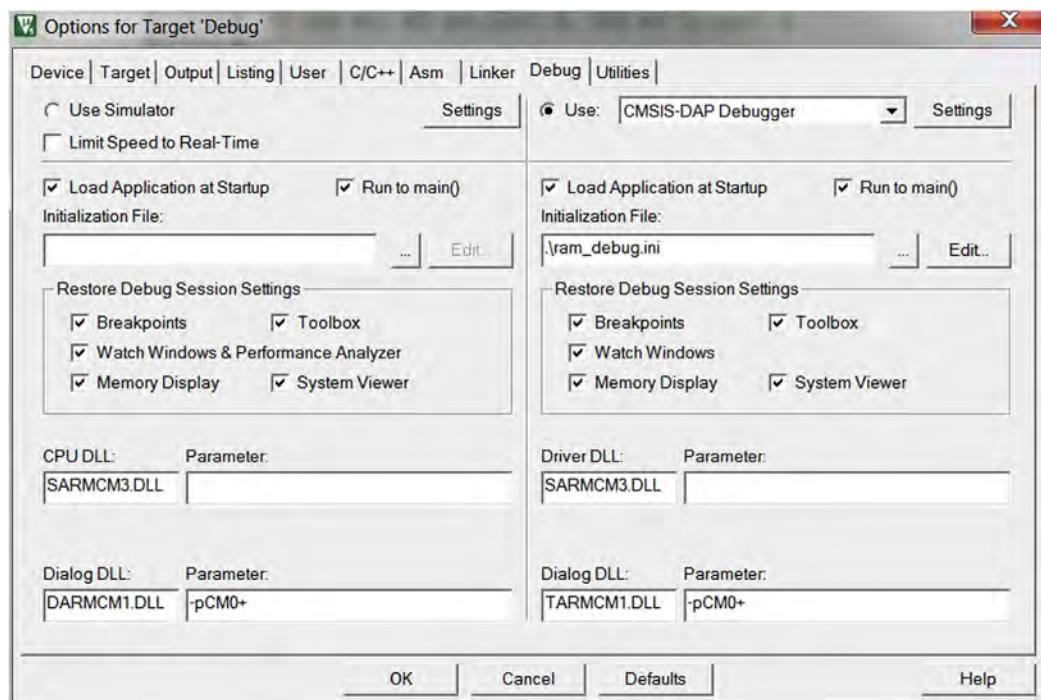

Figure 14.88
- Debug option—add a debug initialization command file (Figure 14.88)
We then need to set up the debug option so that this debug start-up script is used when the debug session starts. The debug option changes for this example are shown in Figure 14.88 (Initialization File option).
After this file is created, you can configure the debugger to initialize the debug session with this file as shown in previous section (see Figure 14.88).